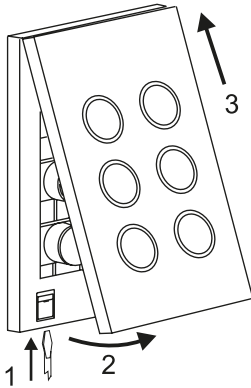

Figure 3 – The release slots provide easy removal of the cover plate.
2. Swing the lower end of the fascia about 5mm away from the grid, until it is free (refer to Figure 3).